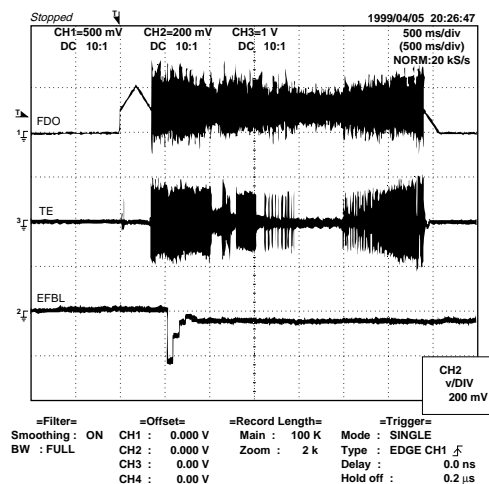

Figure 18-2
- (1) Offset adjustment (The offset voltage between the head amplifier output and the VREF reference voltage is compensated inside the IC.)
- (2) Tracking balance adjustment (waveform drawing Fig.18-2 EFBL)
- (3) Gain adjustment (The gain is compensated inside the IC so that the loop gain at the gain crossover frequency will be 0 dB.)